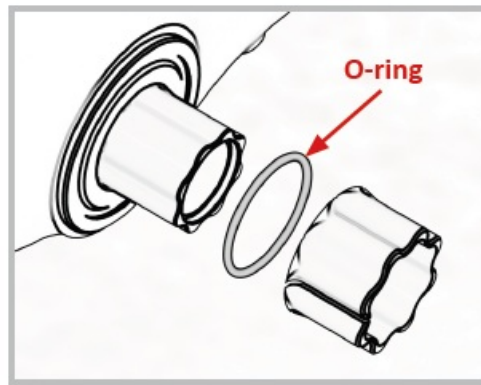

FIG. 1
- Install the Ø22 x 3mm o-ring on the non-drive side before adding the crank reducer (Fig. 1).